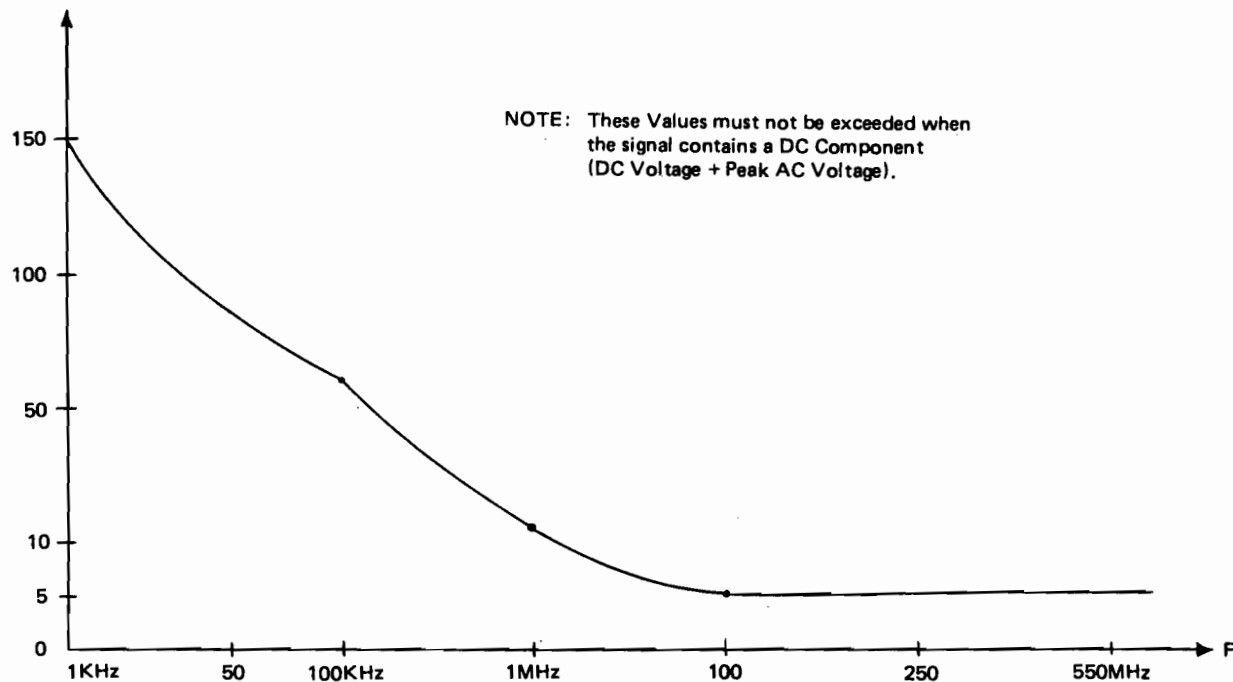

Fig. 3 Maximum input Voltage frequency
2. The maximum input voltage which can be applied to the input depends on the frequency and the position of the SENSITIVITY switch. This relationship is shown in Fig. 3, and the values given in this table must be strictly observed. Initially set SENSITIVITY to 1/10, if the counter doesn't count, set switch to 1/1 range and then perform measurement. This procedure will reduce the danger of damaging the input circuit.
The maximum input voltage Vs frequency characteristics is shown in Fig. 3.